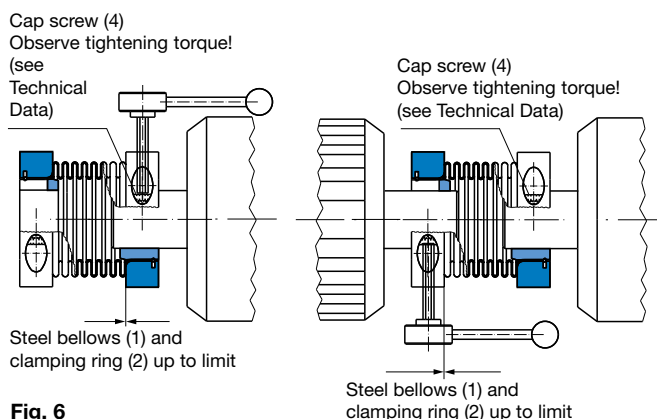
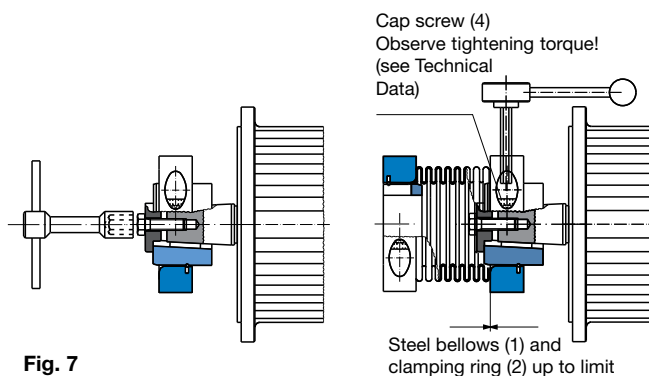
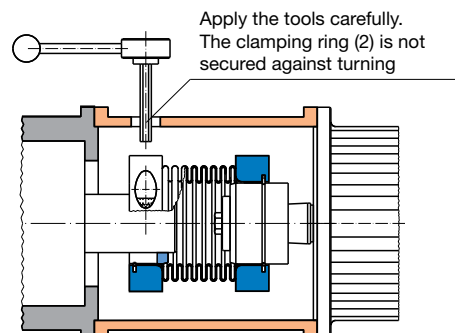

Fig. 6
Fig. 7
Fig. 8
– see also Fig. 6 and Fig. 8
2. Push the entire coupling over the whole length of the reducing bushing (5) onto a shaft.
– see also Fig. 7 and Fig. 8
1. Remove the clamping ring (2) with the protruding reducing bushing with tapered bore (6) from the coupling.
3. Push the reducing bushing with tapered bore (6) onto the conical shaft.
5. Push the rest of the coupling with the open steel bellows side up to its limit between the clamping ring (2) and reducing bushing with tapered bore (6).
6. Tighten the cap screw (4). The screw tightening torque (see Technical Data, page 4) must be observed.
7. Push the second shaft over the entire length of the reducing bushing (5) into the coupling.